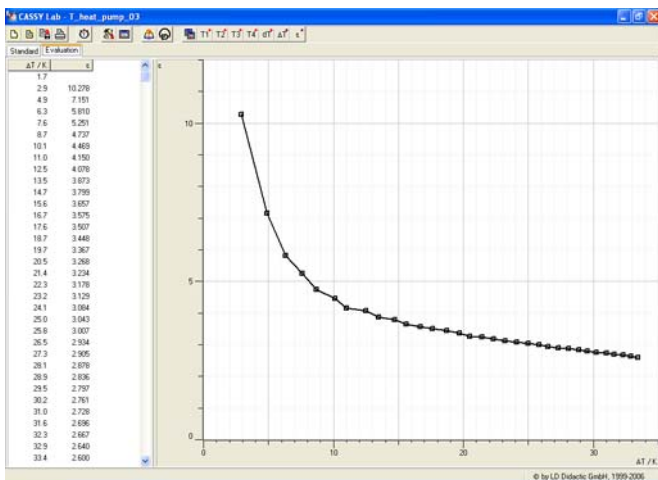

Fig. 7: Defining a new “display” to plot the efficiency ϵ of the heat pump as function of ΔT by using the new display tool (function key F5).
- Close the window "Settings" and select the tab "Evaluation" (Fig. 7).
In Fig. 7 the efficiency of the heat pump is plotted as function of $\Delta T = (T_2 - T_1)$.